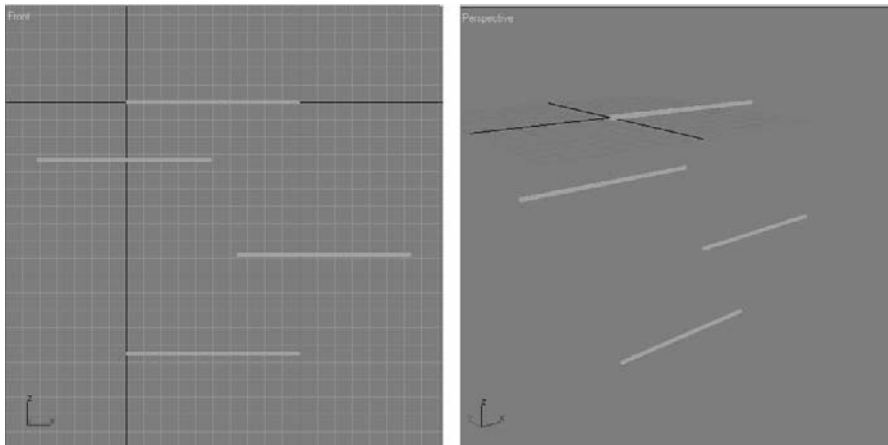

Figure 2.20
4. Use the Move tool to position the lower bars as shown in Figure 2.20; just don't move the bars off the Z-axis by moving any of them in the Y-axis. (We will keep all the bars in the Z-axis for simplicity's sake. After all, this is your first Max animation; there will be plenty of time for confusion later.)